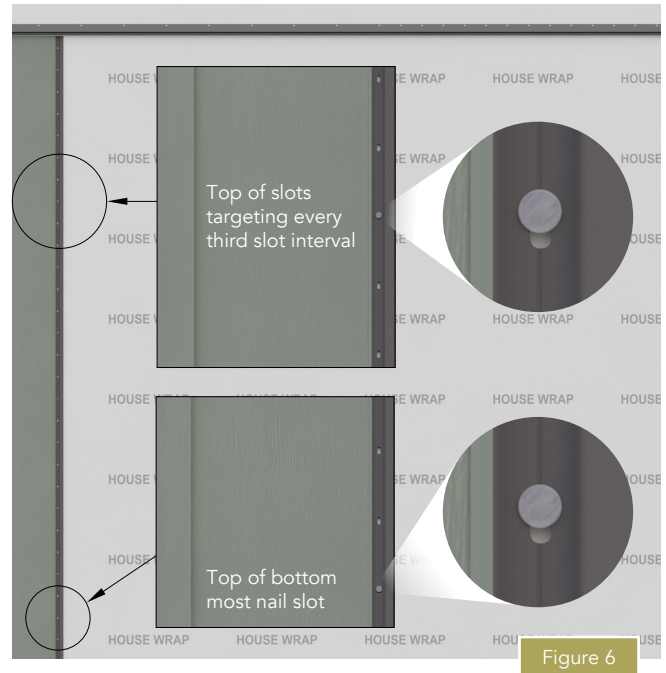

Figure 6
- The first fastener should be placed at the top of the bottom-most nail slot (Figure 6).
- Continue fastening at the top of the nail slot at intervals of every third slot (Figure 6).